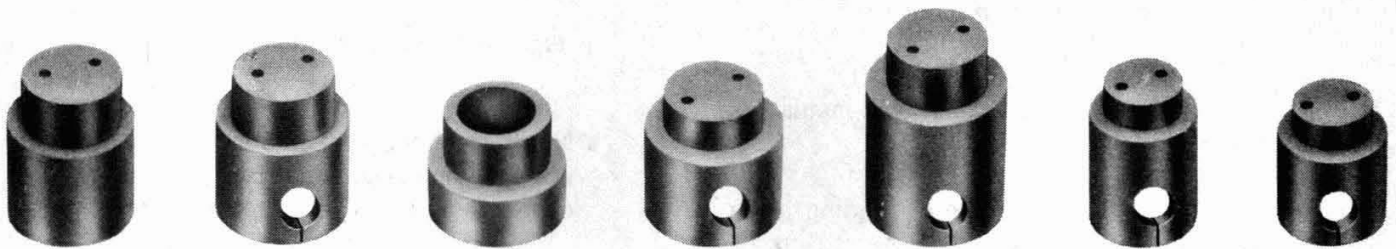

Fig. 4—Binding Post Caps
- Cap, Post, Binding, C, Fig. 4
- Cap, Post, Binding, D, Fig. 4
- Cap, Post, Binding, E, Fig. 4
- Cap, Post, Binding, F, Fig. 4
- Cap, Post, Binding, G, Fig. 4
- Cap, Post, Binding, H, Fig. 4
Binding Post Caps (Fig. 4)